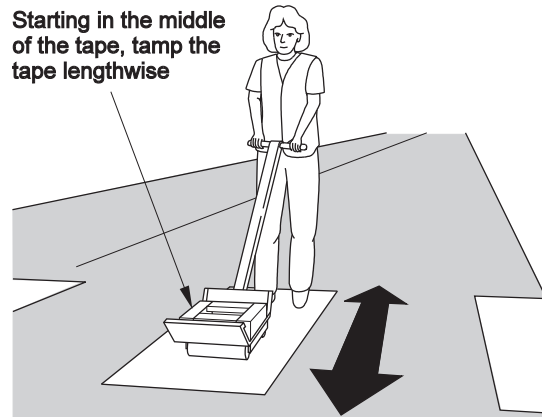

Figure 8.
Use a Roller Tamper Cart RTC-2 loaded with **100 pounds (45 kg)** (two standard 50-pound weights) to get initial tack of the tape to the asphalt. This tamping of the tape should always be done in the same direction as the marking was applied (lengthwise, not crosswise). **Start in the center of the marking**, then work toward the edges of the tape to remove trapped air. Make sure all the edges of the tape are thoroughly tamped. Do not twist or turn the tamper cart on the tape. One pass over each area is sufficient. (See Figure 8.)
**TAMPING IS MOST IMPORTANT!** When using the RTC-2 tamper cart (See Figure 8, Page 7):